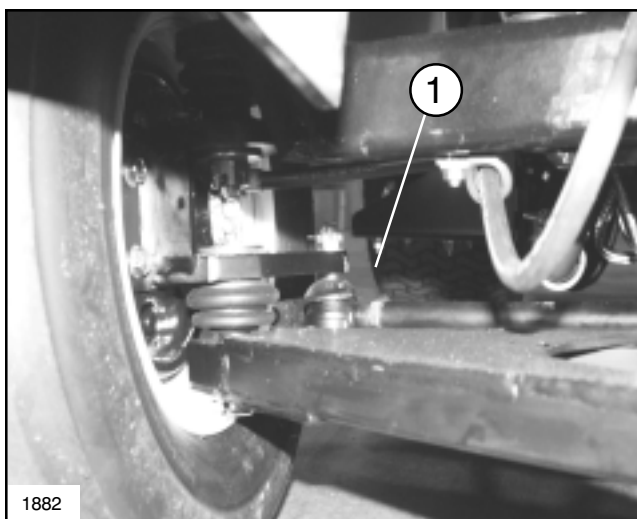

FIG. 29
2. To adjust, loosen jam nuts at both ends of the Tie Rod (FIG. 29).